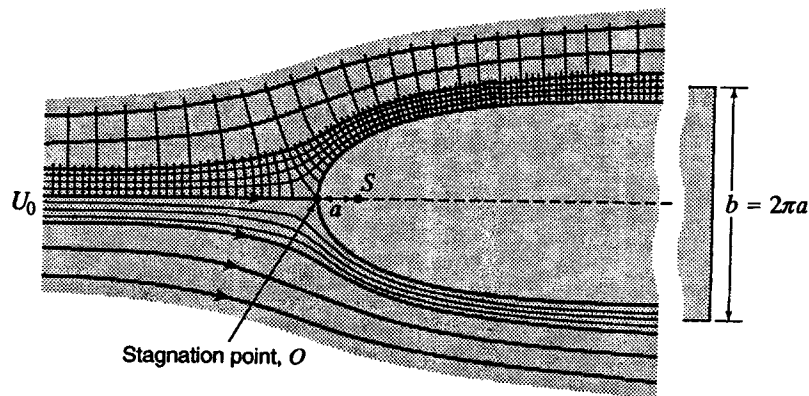

Figure 4.12
5.7 In Fig. 4.12 the velocity of the undisturbed field is 22 fps and the velocities very near the surface at radii from the "source" making angles with the axis of 0, 60, 120, 150° are 0, 17.5, 23.7 and 21.9 fps, respectively. What will be the elevation of the liquid surface relative to that of the free surface of the undisturbed field? (This problem illustrates the way in which the water surface drops alongside a bridge pier or past the side of a moving ship.)